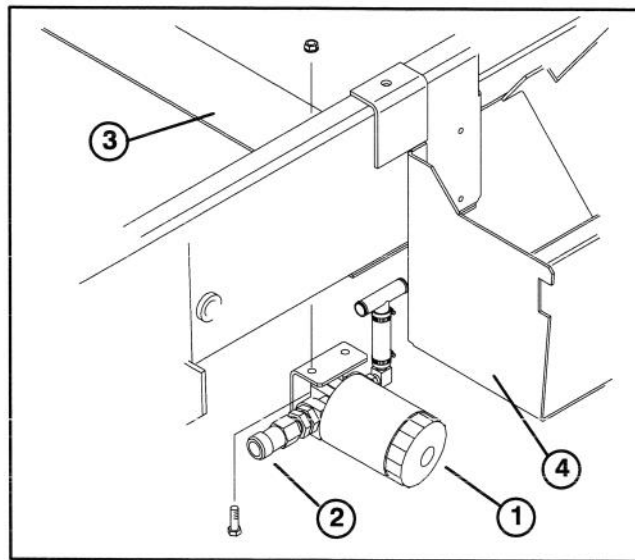

Figure 5
6. Mount filter assembly (Fig. 5) to underside of frame support with (2) 3/8-16 x 1-1/4" lg. capscrews and locknuts. Filter assembly to be positioned so flush face coupler is toward front of machine.